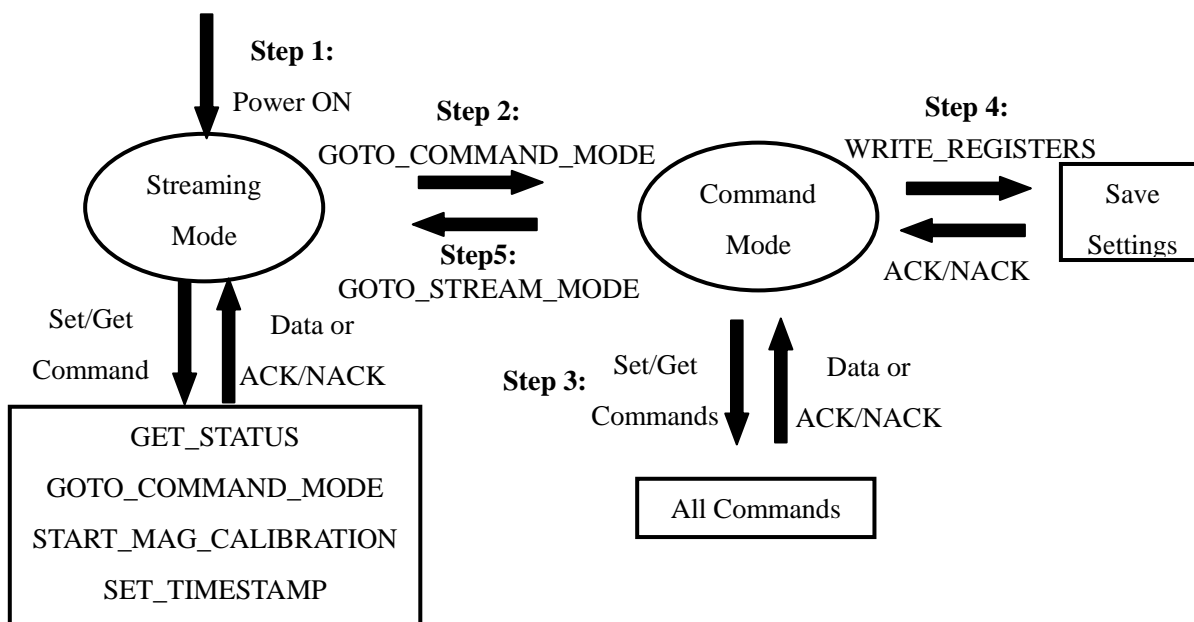

Figure 6.1. Flowchart of sensor parameters setting
Figure 6.1 shows the flowchart for changing the parameters of LPMS devices.
- Only 4 commands are executable in streaming mode, see Figure 6.1.
- Command WRITE_REGISTERS must be executed after changing sensor parameters, or all changes fail to set up after power down, see Step 4 in Figure 6.1.